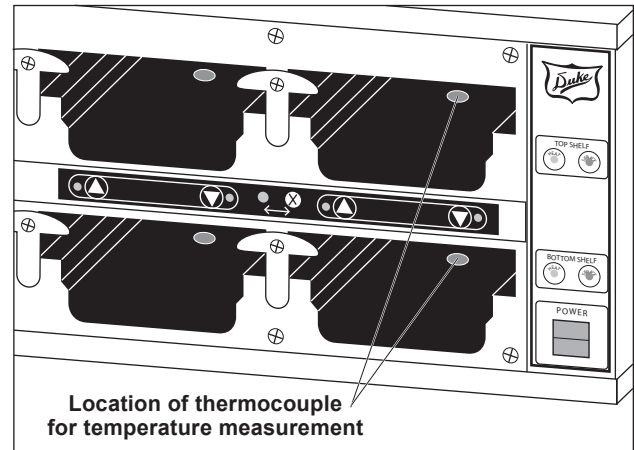

Figure 36. Measurement Location
4. Locate the surface temperature probe on the bottom of the first well in the geometric center. The first well is the one closest to the control panel (see Figure 36). Make sure the probe is making good contact with the surface while taking readings.